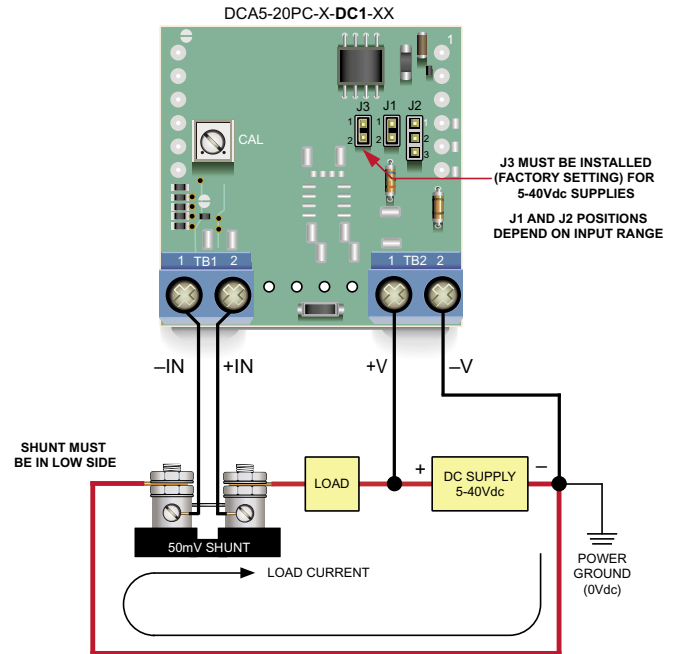

Figure 2. Low-Side Shunt Connections for "-DC1" 5-40Vdc Non-Isolated Supply Models
**Low-Side Shunts:** Applications that employ a single power supply to power both the load and the ammeter, and the external shunt is located in the negative side of the supply (commonly referred to as "low side" or "grounded shunt") should use '-DC1' non-isolated power DCA5-20PC Series ammeters. Figures 2 and 3 depict typical low-side shunt connections.